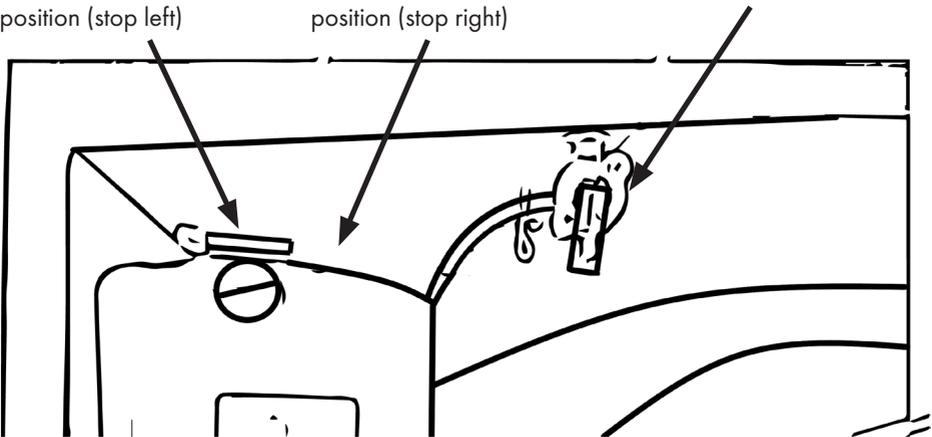

Figure 11
1. Open the fuel tap. See also Fig. 11. (Handle on the tap points downwards)